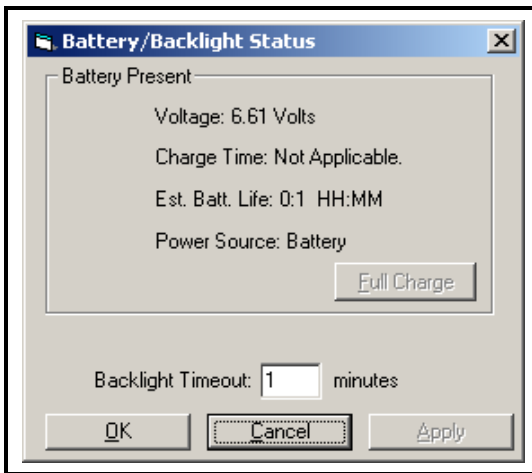

Figure 35: Battery/Backlight Status
2. From the network tree, double-click on “*Battery/Backlight*.” The “*Battery/Backlight Status*” window appears, as shown in Figure 35 below.